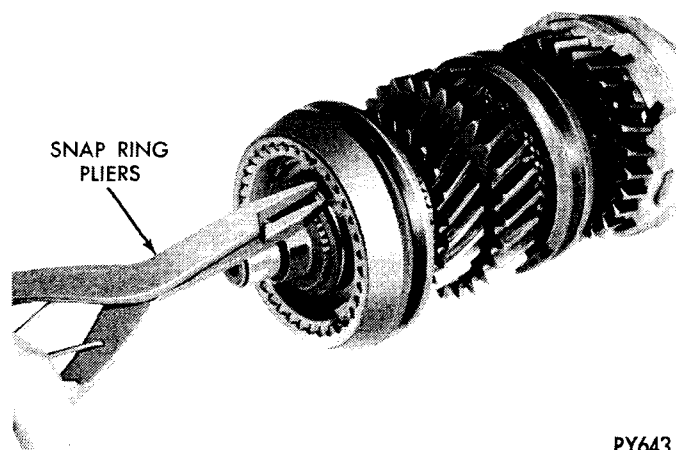

Fig. 15—Removal or Installation—2nd-3rd Synchronizer Clutch Gear-to-Mainshaft Snap Ring
(1) Remove the snap ring from front end of mainshaft which retains the 2nd-3rd synchronizer clutch gear (Fig. 15).
(23) Install 2nd-3rd clutch gear snap ring on shaft (Fig. 15).
(24) Move 2nd-3rd synchronizer sleeve forward as far as practical (limited by need to retain struts in place) and install front stop ring (coated with grease to hold it in position) inside sleeve with lugs indexed to struts.